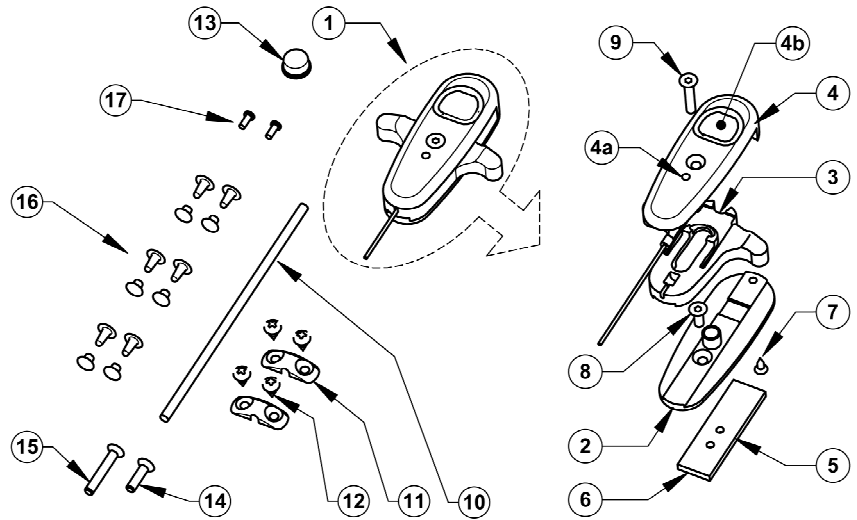

Fig 1
- Disassemble the handle (fig.1) by unscrewing screw 8, then 9 and then 7 (to reach screw 8, the handle must be in low position, so that a 2mm hex wrench can be insert in hole 4a).